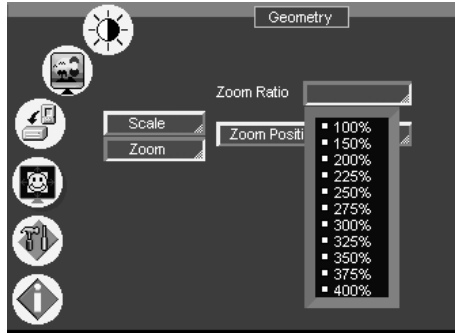

Figure 21: Geometry (Zoom Ratio) Screen
- Using the OSD Menu buttons, as Figure 21 illustrates